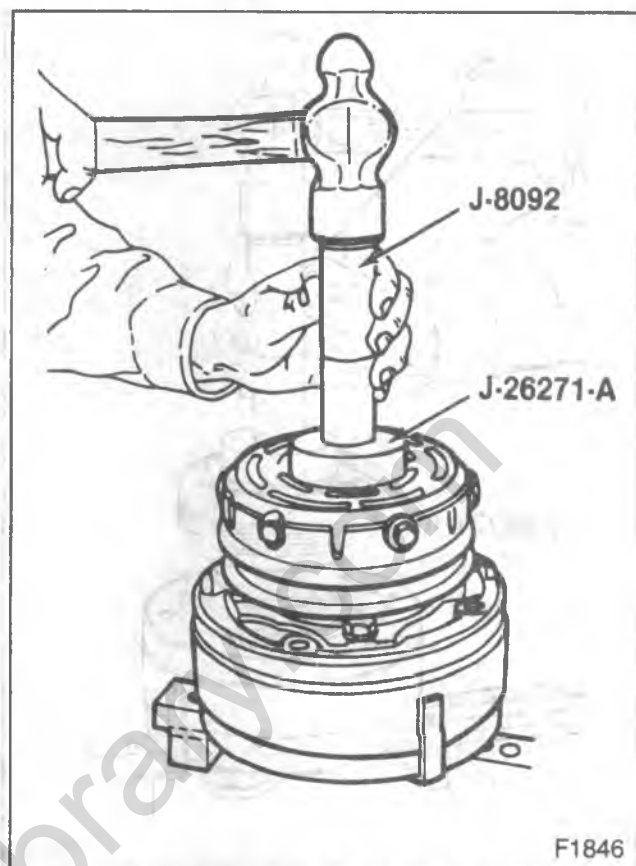

Figure 101—Installing the Rotor and Bearing (V-Belt Type)
2. Rotor (6) and bearing (5) assembly to the compressor with J 8092 (figure 101).
3. Retainer ring (4) with J 6083.